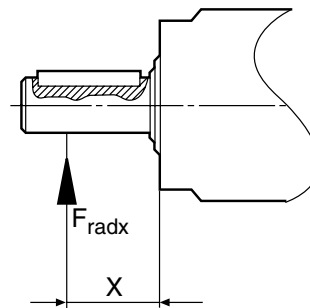

Fig. 4: Force applied at distance X
- b. The force is applied at a distance x, as in figure 4. This value can be calculated as follows: